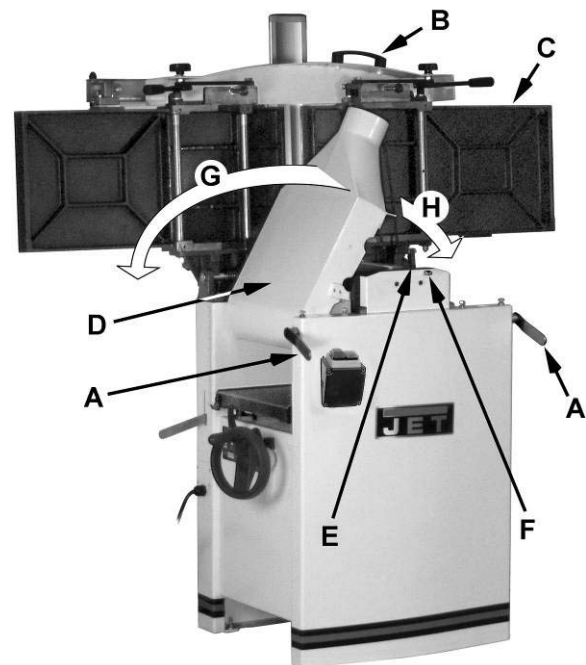

Figure 3
When raised, the table should be in the vertical position as shown in C, Fig. 3. The *latch* (E, Fig. 3) should be engaged, preventing the table from an accidental forward fall.
3. Position the *dust chute* (D,H Fig. 3) to the right. Use extreme care to avoid contact with cutterhead knives.
Referring to Figure 3: